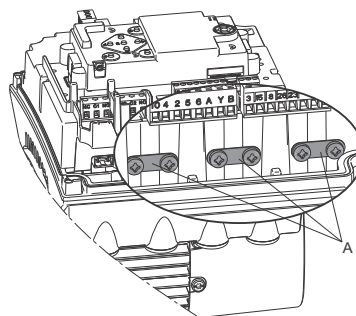

Fig. 75 Connecting the cable screens to ground
7. Connect the cable screens of the bus cables to ground via one of the ground clamps (fig. 75, A).